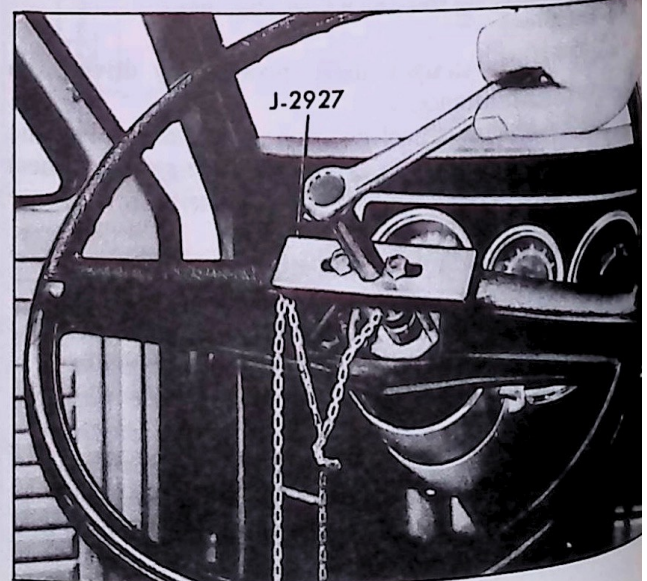

Fig. 7—Steering Wheel Removal
4. Use Tool J-2927 to remove wheel (fig. 7). It may be necessary to tap lightly on the bolt head of the tool with a hammer as it is turned down, to loosen tight steering wheels.